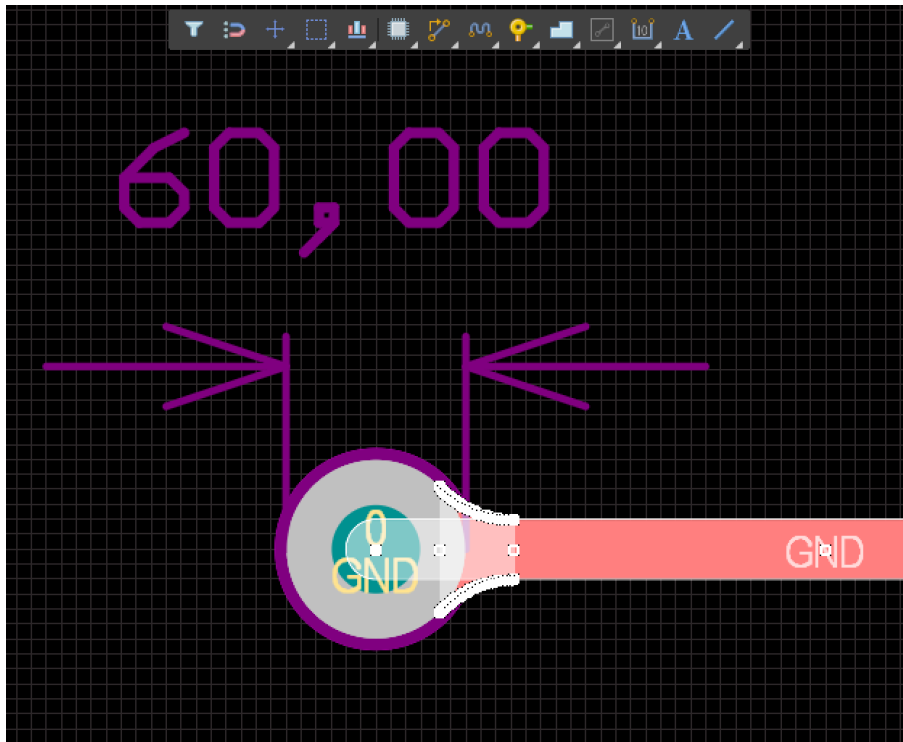

Figure 3. Via with teardrop
16. Navigate to the Through Hole Pad example in the PcbDoc and observe if the Pad acquired teardrops around the Via. The trace should be connected, as shown in Figure 3 below.